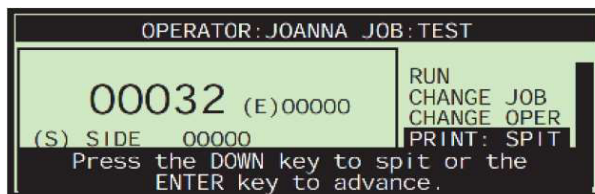

FIGURE 81: Run screen with PRINT= SPIT
- 2 Press the **Enter** key a few times until "**PRINT:SPIT**" appears with instructions, as in Figure 81.